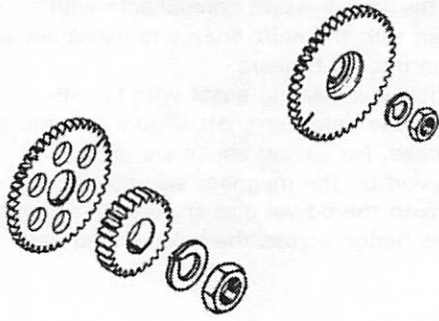

Figure 96
- Refer to Figure 96 when installing the primary drive gears.